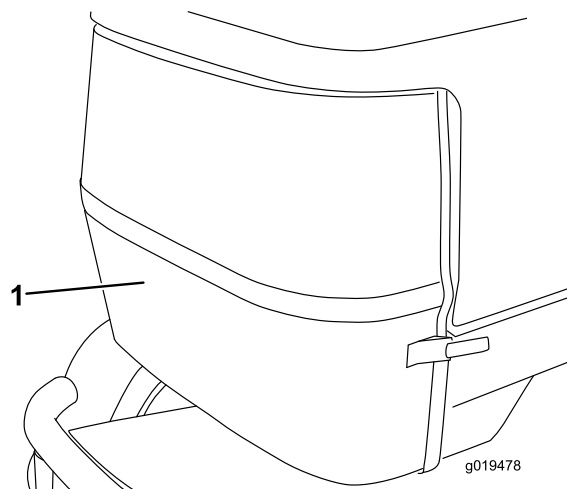

Figure 66
5. Unlatch and remove the rear screen (Figure 66).